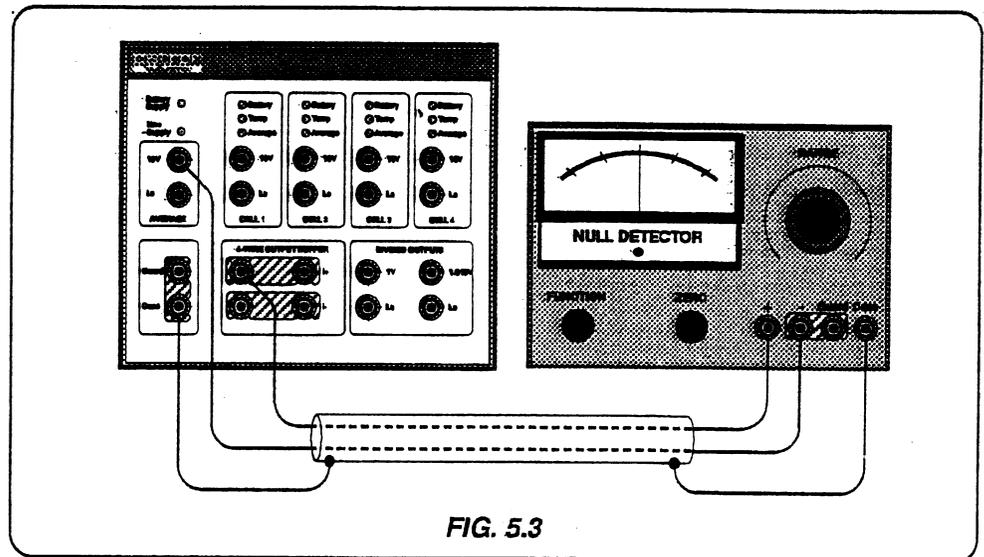

FIG. 5.3
8. Connect the null detector to the 4910 as shown in Fig 5.3.